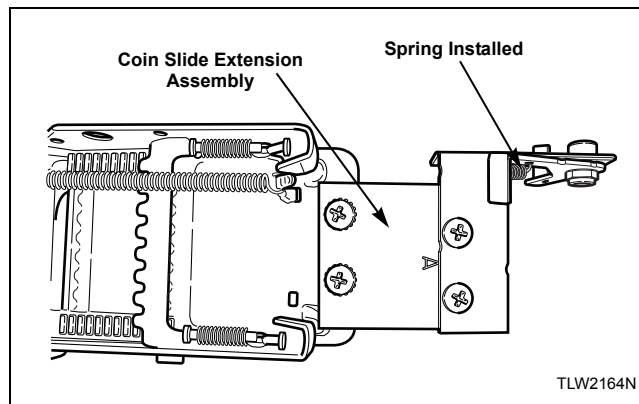

Figure 31
6. Install coin slide extension assembly onto top of coin slide using two remaining screws and lockwashers. Place lockwashers under head of screws, above bracket “A”. Refer to *Figure 31*.